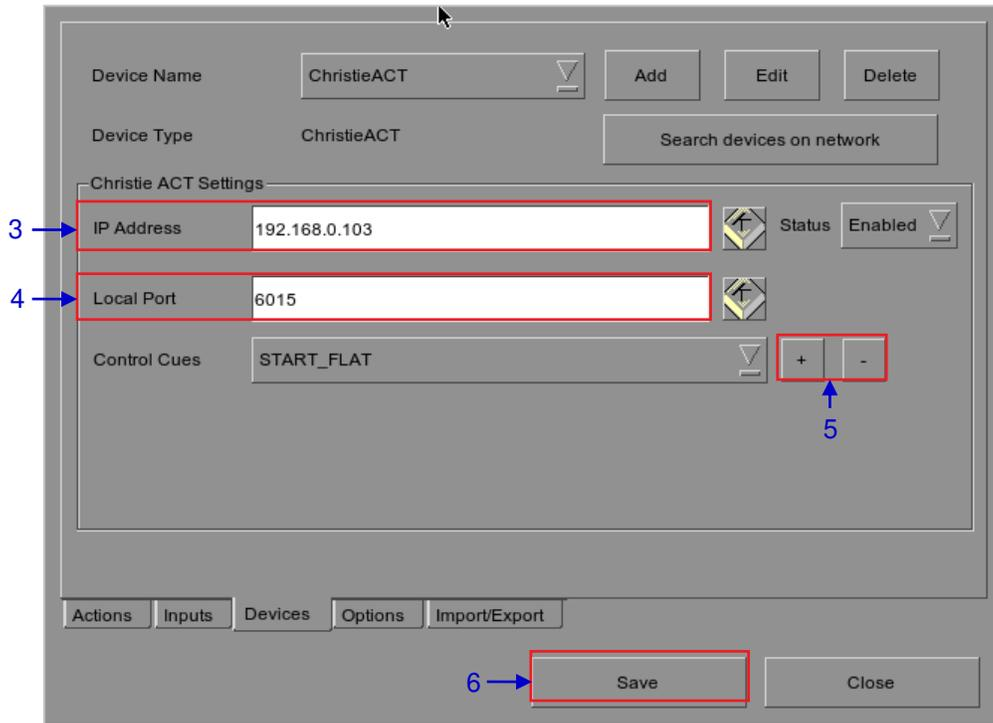

Figure 48 Automation settings for Christie ACT device.
3. Enter the IP address of the Christie ACT device (see Figure 48).